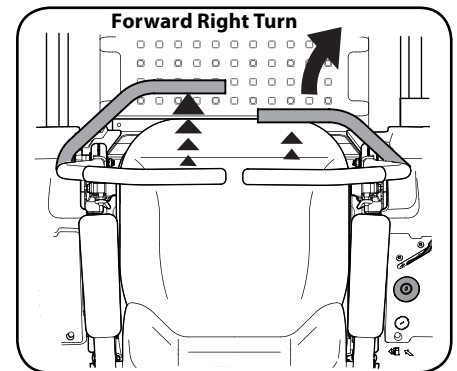

Figure 3-4
2. To turn to the right, move the right drive control lever rearward of the left lever. See Figure 3-4.